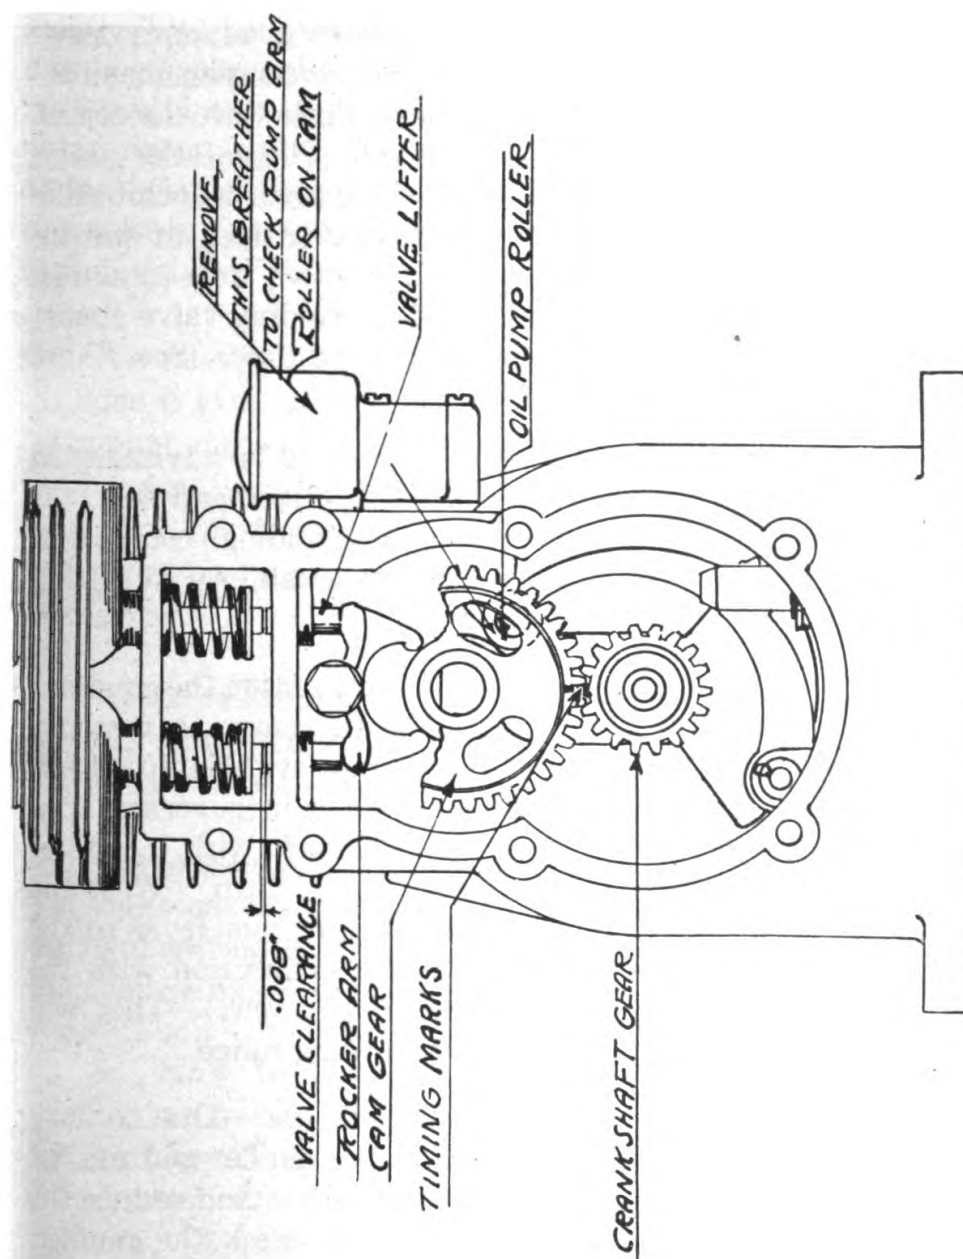

Figure 5—Valve Clearance and Timing
t. How to Check Valve Clearance.—Remove the fuel tank, flywheel housing, flywheel, cylinder head and valve-spring cover plate. This will expose the valve-spring chamber. Turn the crankshaft until the piston is flush with the top of the cylinder and both valves are closed. Slip a feeler gauge between the valve stem end and the valve tappet. (See Figure 5). If the clearance is less than .008 inch, it will be necessary to grind or file the end of the valve stem to obtain the correct clearance. Be careful when grinding valve stems, not to grind them too far. Grind a little at a time. (See Chart of Clearances—Section IV, 10, a).
Note the marking on the cam gear and crankshaft gear. The cam gear has a notch which must coincide with the beveled tooth on the crankshaft gear. (See Figure 5).